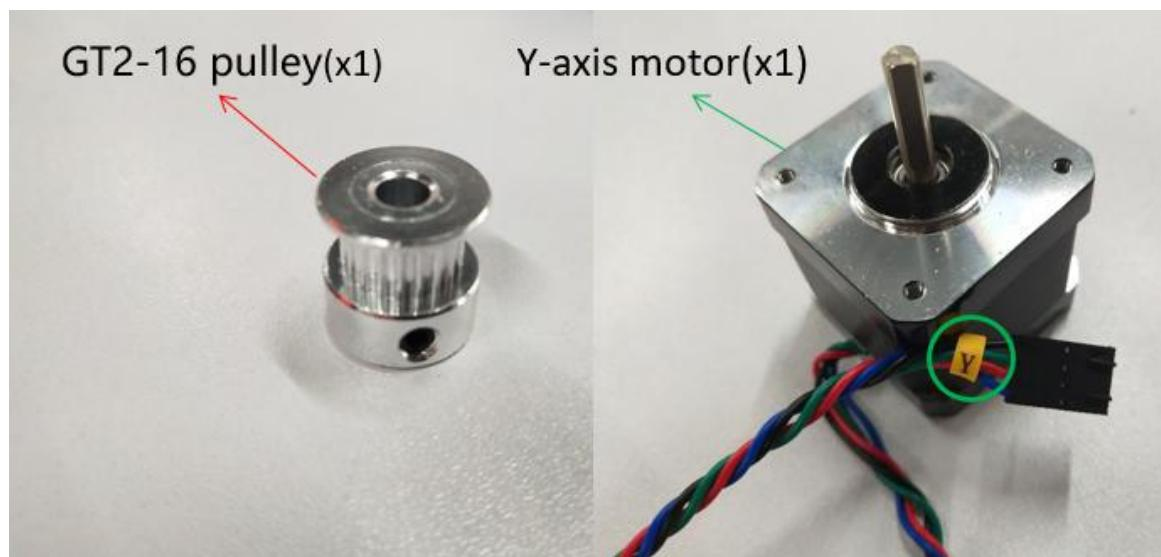

Figure 1.1.1
**Step 1-1-1:** As shown in Figure 1.1.1, prepare the materials and check whether the quantity of materials is correct, prepare for the next installation.